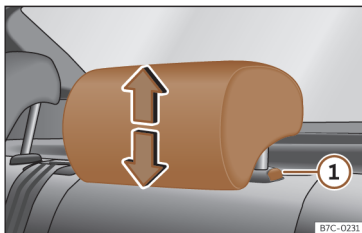

Fig. 88 Rear headrest: adjusting the headrest.
- Grab the sides of the headrests with both hands and push upwards to the desired position. To lower it, repeat the same action, pressing the button on the side ① >>> Fig. 88.